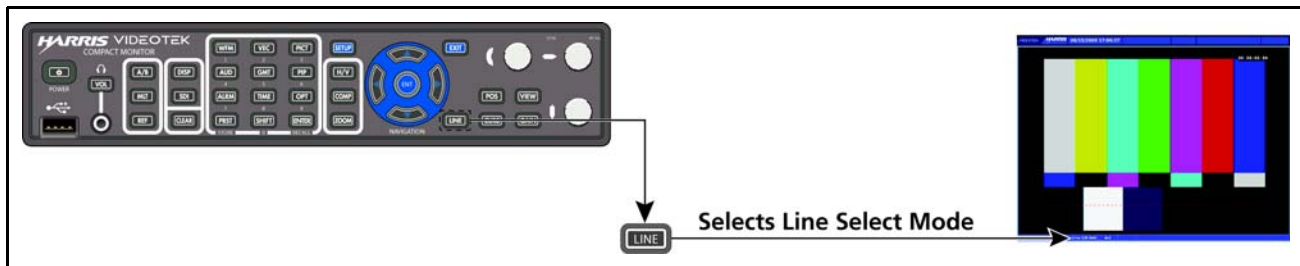

Figure 4-27 Establishing Line Select
- 1 A cursor appears on the selected line, as shown in Figure 4-27.